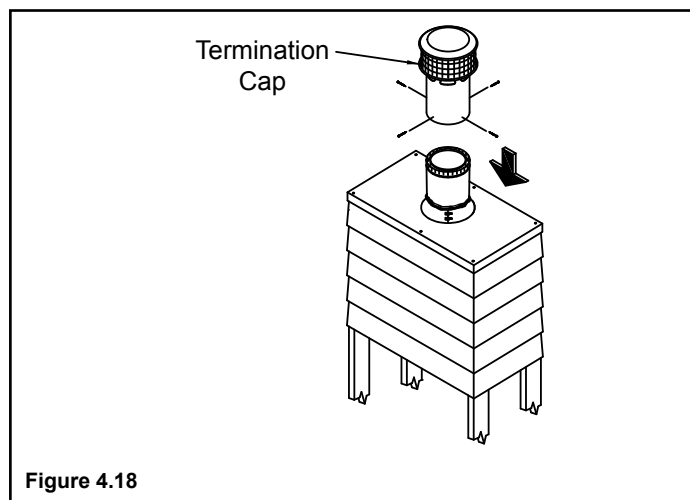

Figure 4.18
- Attach the chimney cap onto the top of the chimney by setting the female end of the cap onto the male end of the last chimney section. Secure the cap by using four sheet metal screws (provided, Figure 4.18.)